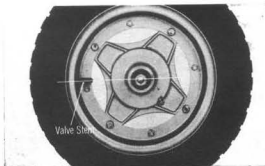

Fig. 81
- (2) The valve stem must be pointed toward the axle. An improperly seated valve stem may cause an air leak. (Fig. 81)